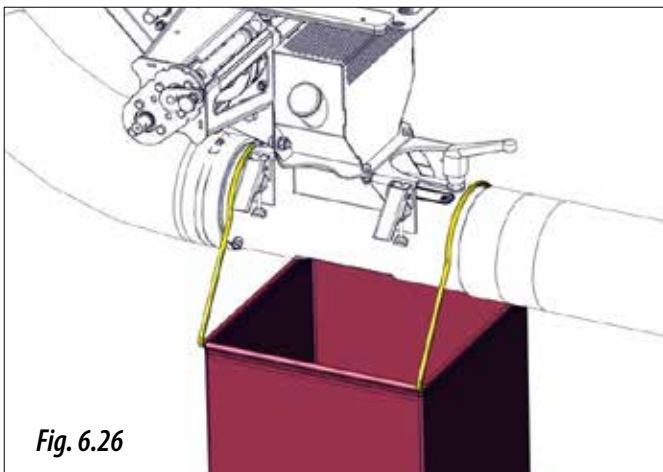

Fig. 6.26
- 3- Place the bag supplied or a container under the Venturi injector outlet (Fig. 6.26).